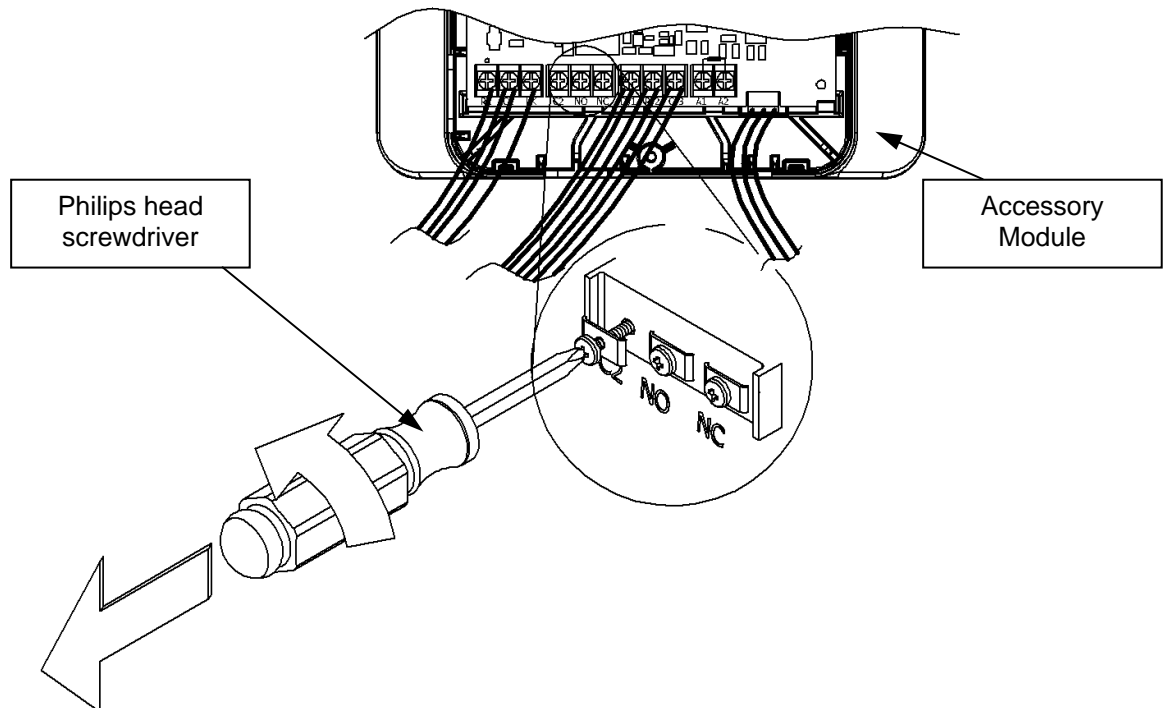

Figure 75
Step 8: Loosen the (3) screws on the Accessory Module labeled "C2," "NO," and "NC." This is shown in Figure 75.